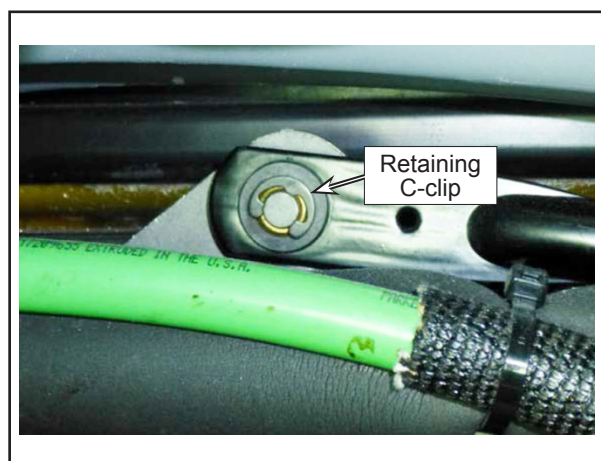

Figure 13 - Pivot C-Clip
- 2.12. From outside the bus, verify that the three C-clips (N8883532) are in place on the central pivot (Figures 13 and 14). If they are not, install clips where missing.